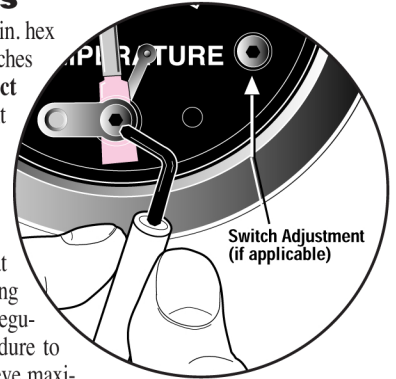

Figure 3
1. All contacts are set using a 1/16 in. hex wrench (Figure 3).
1. With equipment running; use a 1/16 in. hex wrench to rotate contact until it touches the pointer. **Do NOT force contact against the gage pointer.** Equipment should shut down and/or alarm should operate. Reset the contact (Figure 3).